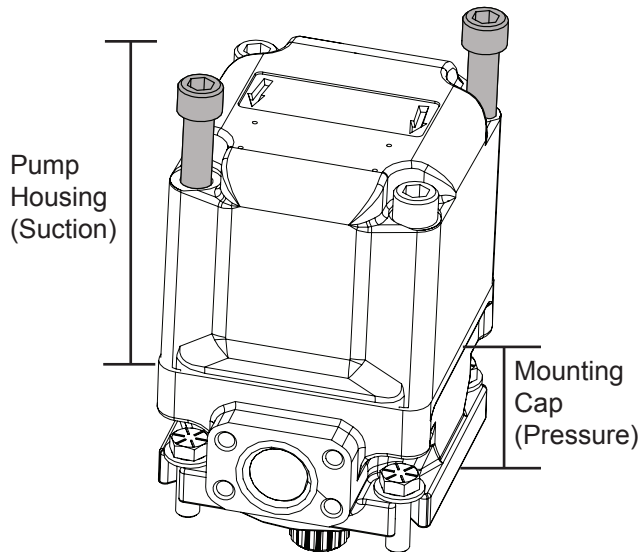

Figure 8
5. Completely remove two (2) diametrically opposite bolts (Figure 8). Leave the other two bolts loose in the other corners. The loosened two bolts will be used to rotate the housing with a suitable pry bar to adjust the porting position. **NOTE:** Do not allow the housing to raise up from the mounting cap surface. If the housing raises up, the cartridge locating pin will come out of its locating hole.